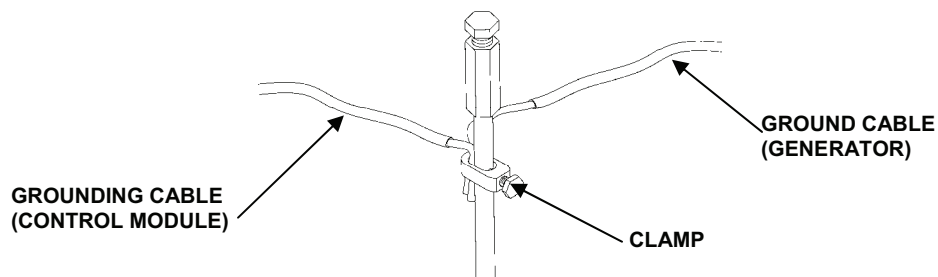

Figure 1. Grounding Rod.
3. Connect the ground cable to the control module and to the grounding rod with the attached clamp. See Figure 1.